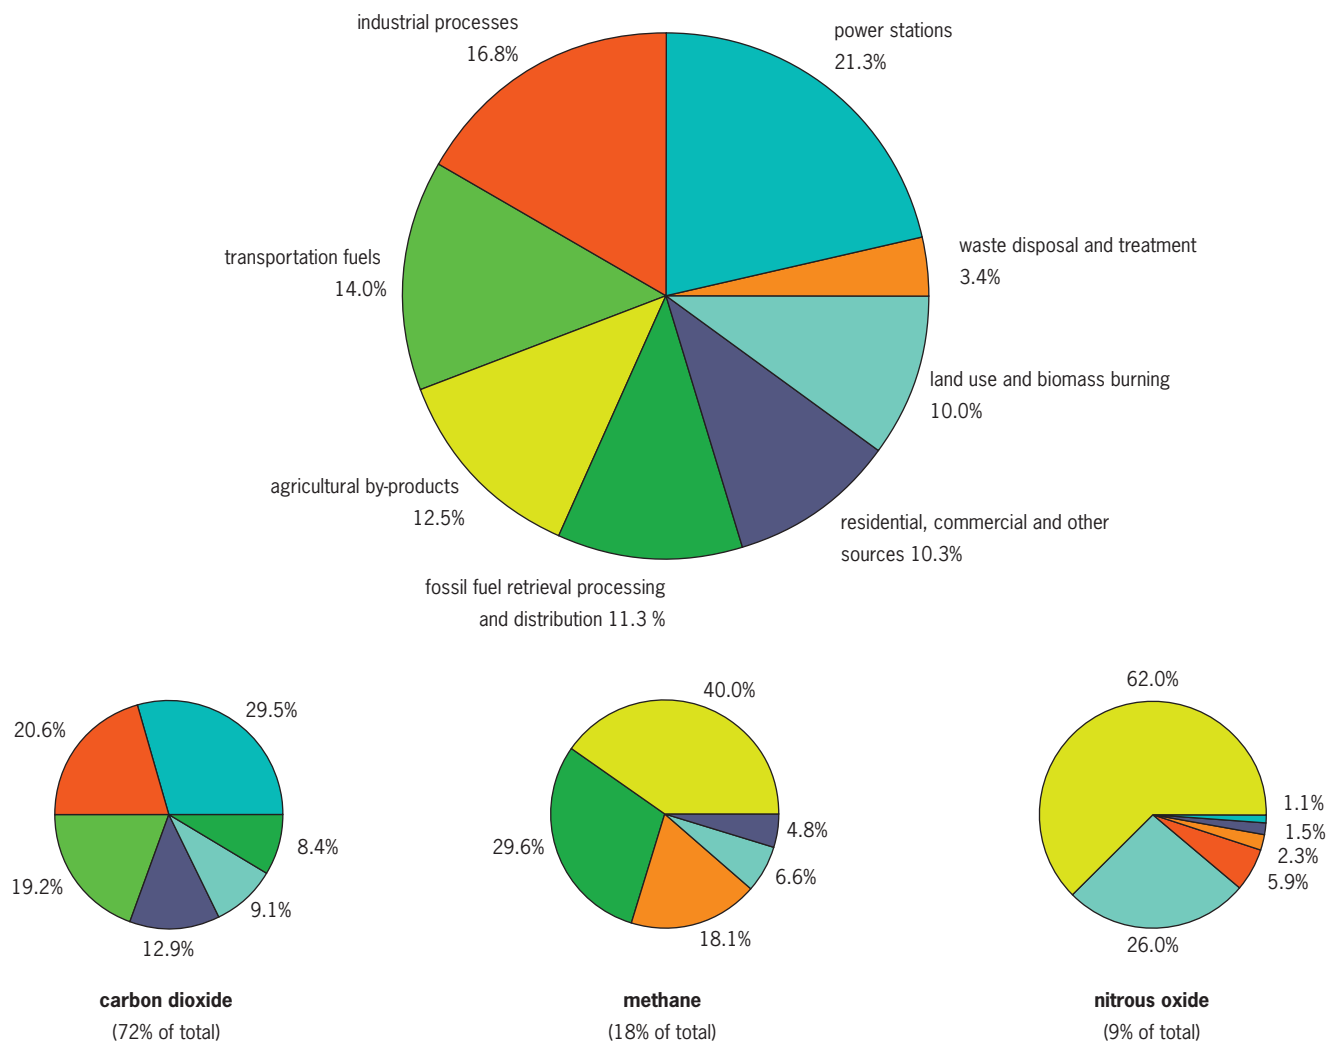

Figure 5.3.6 Annual greenhouse gas emissions by sector.
- 5 Comment on the relationships shown in figure 5.3.6.